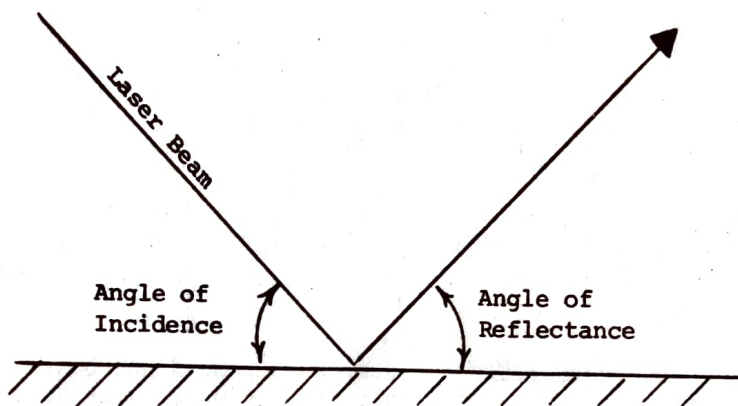

Figure 6. Perfect Reflector.
a. A laser beam striking a perfect reflector bounces off, unchanged, reflected at the same angle that it struck. This is known as specular reflectivity (Figure 6). No tactical targets fall exactly in this category, but water and polished metal are close.